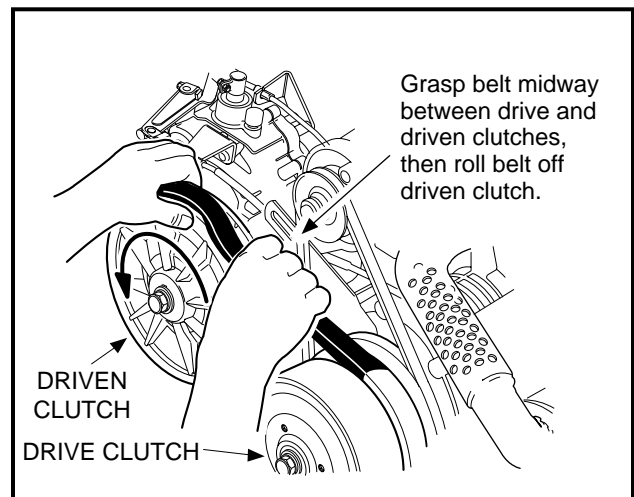

Figure 16-25 Remove Drive Belt
- 15.1. Grasp belt midway between drive and driven clutch and pull up on belt to force the driven clutch sheaves apart. Roll the belt counterclockwise while pulling it off driven clutch (**Figure 16-25, Page 16-11**).